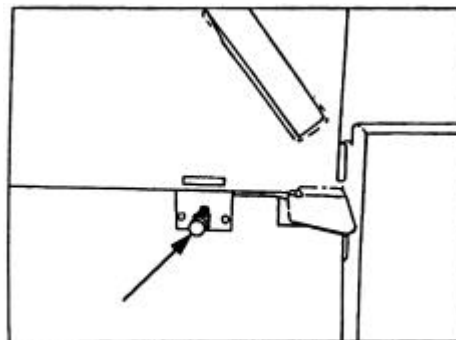

Fig. 5.19. Radiator Drain Plug
2. Remove castellated nut protecting the automatic valve shown in Fig. 5.19. Install the drain hose (included in the machine accessories) on the open thread. The drain valve will be opened automatically as the hose nut is thread in.